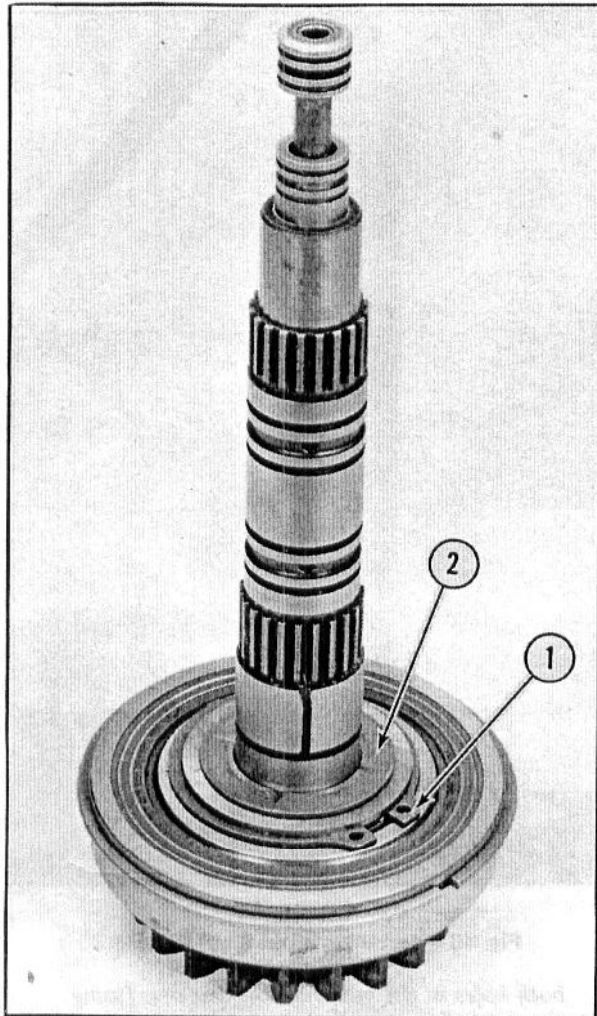

Fig. 41 — Output Shaft Bearing Installed
9. Remove snap ring securing bearing to the output shaft and pry bearing and slinger from shaft. See Fig. 41.